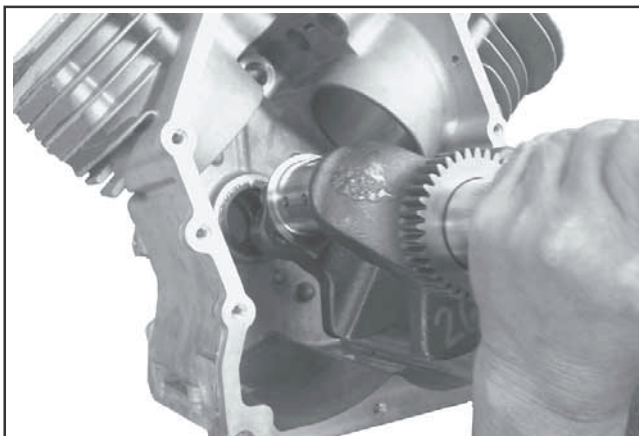

Figure 8-59. Removing Crankshaft.
1. Carefully pull the crankshaft from the crankcase. See Figure 8-59. Note thrust washers and shims if used.